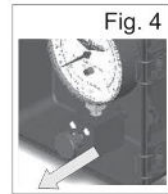

Fig. 4
**Step 7:** Pull the “push-pull” valve to switch the valve into the open position. (Fig. 4)